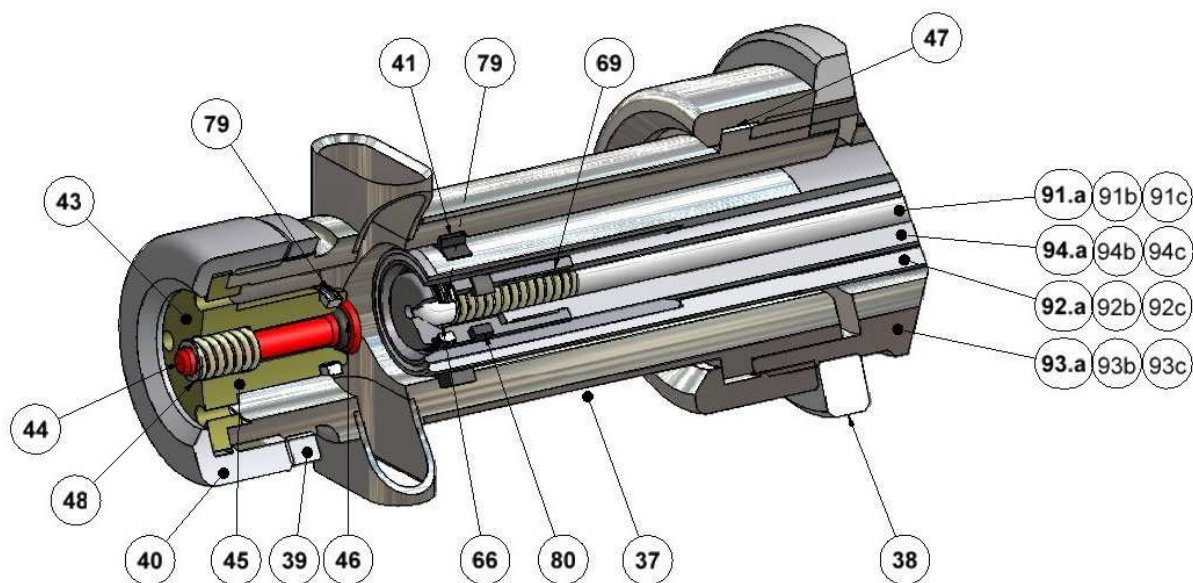

Figure 13– 210 Probe Head
Loosen the Lock Ring (Figure 13, item 39) using 36-2000 Series 'C' Spanner
Loosen and remove the Lock Nut (Figure 13, item 40) using 36-2000 Series 'C' Spanner
Withdraw the End Plug (Figure 13, item 43) from the Probe Head.
Remove the Balseal (Figure 13, item 79) taking care not to damage the machined surfaces. Examine seal area of End Plug for wear (scoring), discard and replace if necessary.
Remove the Spring (Figure 13, item 45) from the End Plug.
Remove the 'O' Ring (Figure 13, item 46) from the Vacuum Breaker (Note There is no "O" ring on Probes after Oct 2012) Valve taking care not to damage the machined surfaces. Examine seal area of Vacuum Breaker for wear (scoring), discard and replace if necessary.
Reference Figure 13, Re-assemble using new Spring (Figure 13, item 45).
Warm the Balseal (Figure 15, item 79) in hot water. Place the Balseal over the Balseal Loading Mandrel, Special Tool 'G' and push down approximately half the mandrel's length to expand the lip seal so it will fit over the End Plug (Figure 13, item 43).
Reference Figure 13
Remove the Valve Stem along with the Check Valve Tip and Spring (Figure 13, Items 66, 69 and 91).